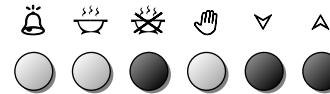

Fig. 7.6
2. Set the time you need the food to stop cooking by pushing the  button (the cooking time already added to the clock time will appear), and the  button (fig. 7.6); if you pass the desired time you can go back by pushing the  button.